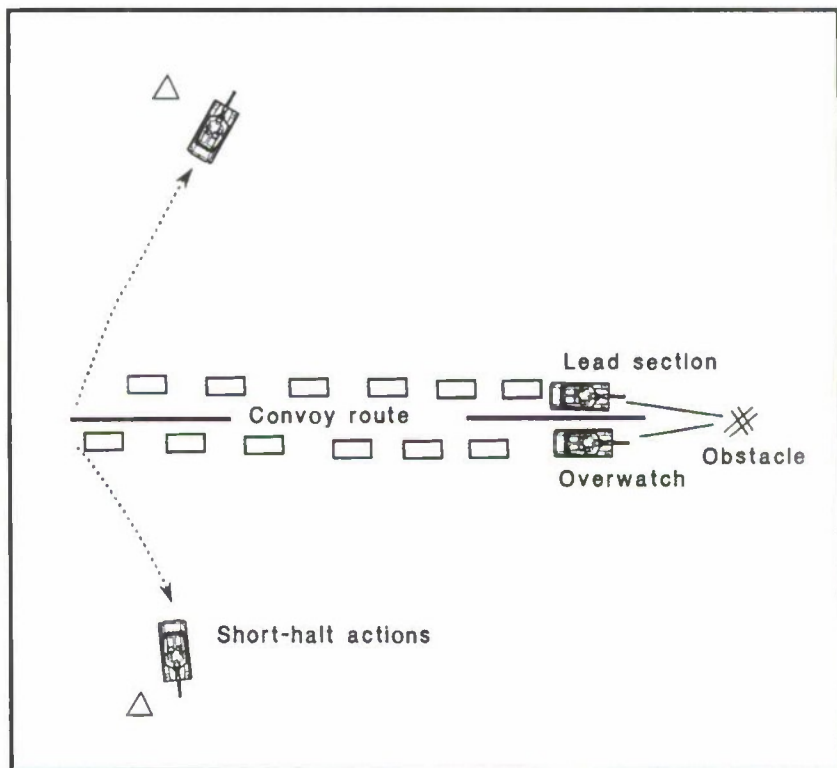

Figure 5-10. Convoy escort overwatches an obstacle.
- The lead element identifies the obstacle and directs the convoy to make a short halt and establish security. The convoy escort overwatches the obstacle (see Figure 5-10) and requests that the breach force move forward.